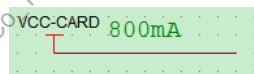

Figure 2-29 The Operating Voltage and Current Label of TF Card
- Must mark the operating voltage and the maximum operating current of TF Card power to facilitate PCB layout design. As shown in Figure 2-29.